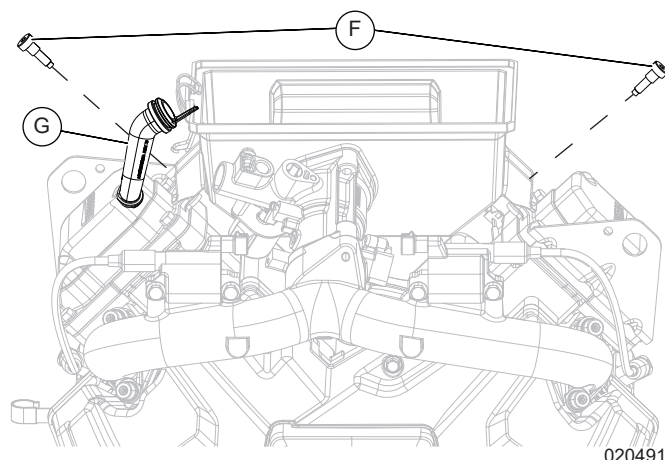

Figure 6-9. Remove Air Box Bolts and Breather Hose
5. See Figure 6-9. Remove air box base mounting bolts (F) from cylinder head and gently dislodge breather hose (G) from air box. Do not damage breather hose when removing from air box.